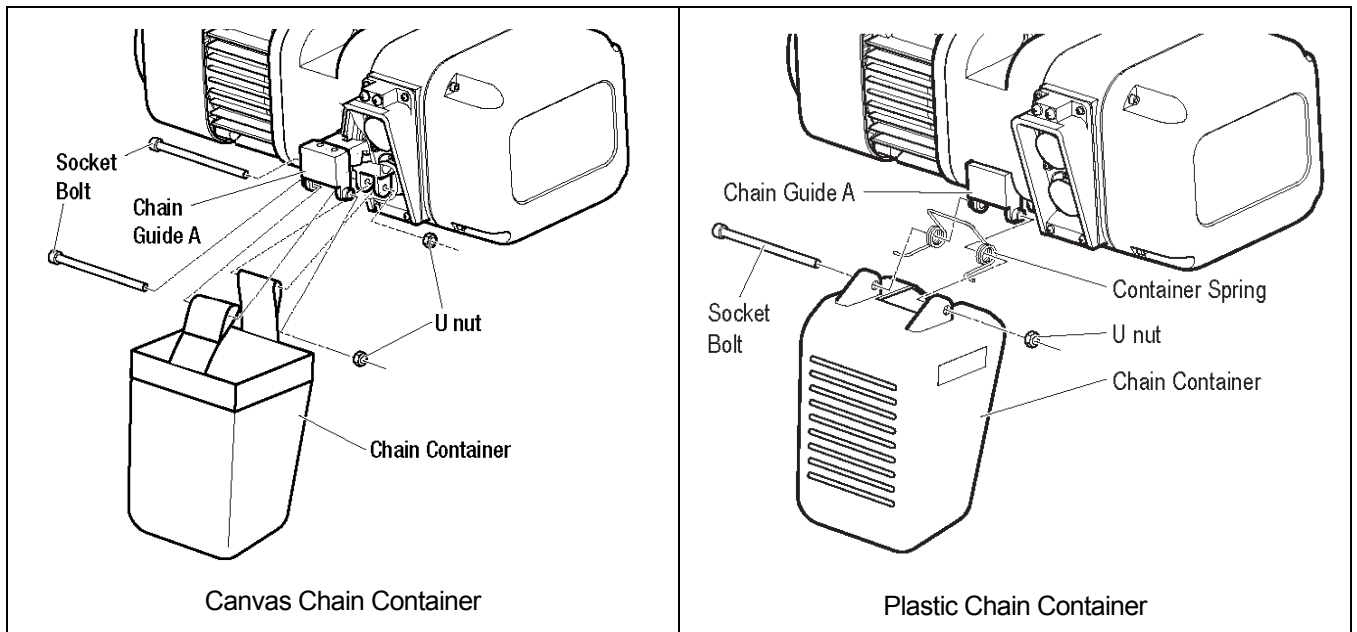

Figure 3-4 Attachment of Chain Container to Hoist Body
- 3.2.2 When the hoist is used without a chain container, the free end of the chain is attached to the hoist body as shown in Figure 3-4. Connect the no load end of the chain to Chain Guide A with the End Suspender provided. For 5 ton hoist, connect the no load end of the chain directly to Chain Guide A if Chain Guide A is notched to accept the chain. Make sure the chain remains free of twists and the chain Stopper is installed on the correct link. Refer to Table 3-1 for proper placement of Stopper.
3.2.3 **Optional Canvas or Plastic Chain Container** - When the optional canvas chain container is selected, fully unfold and install it on the hoist body as shown in **Figure 3-4**. When installing the optional plastic chain container, pass the socket bolt through the holes in this order: the chain container, the bucket spring, the chain guide A, the bucket spring, and the chain container. Be sure to mount the bucket spring in correct direction as shown in **Figure 3-4**. The free end of the chain is not attached to the hoist body and the chain stopper is installed on the third link from the free end. To place the chain into the chain container, feed the free end of the chain into the container. Take care to avoid twisting or tangling the chain. NEVER put all the chain into the container at once. Lumped or twisted chain may activate the down limit switch and stop the hoist during lowering.